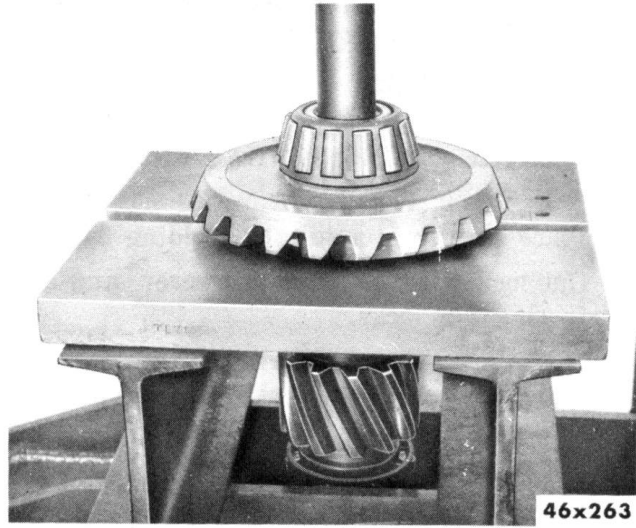

Fig. 120—Removing Ring Gear and Bearing
- (1) Cut lock wire, remove cap screws and bearing plate from gear end of cross shaft.
- (2) Press shaft from gear and bearing (Fig. 120).
- (3) If necessary to replace bearing, remove bearing from opposite end of cross shaft.